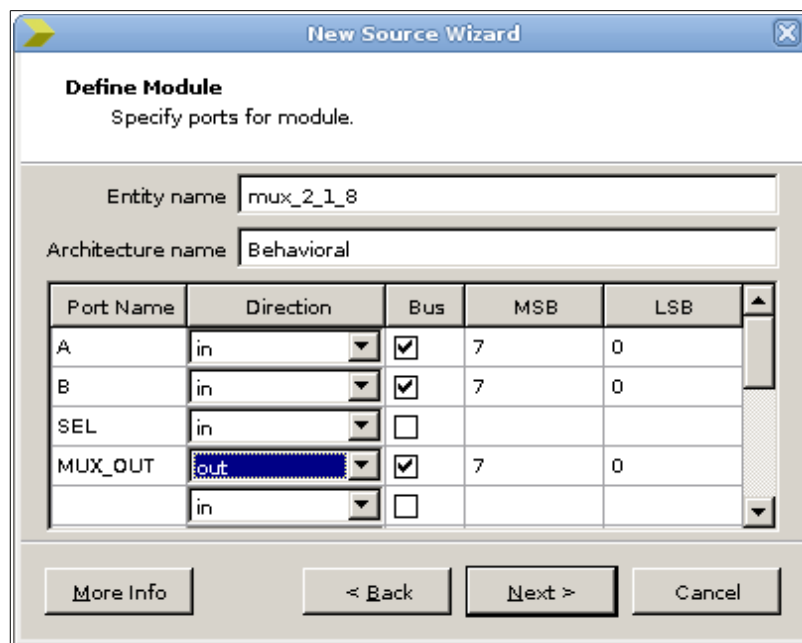

Figure 4
The mux will have two 8-bit inputs (data inputs A and B), one 1-bit input (select input SEL) and one 8-bit output (data output MUX_OUT). So the next New Source Wizard window must be completed as shown in Figure 4.
In **Figure 5** ports A, B and MUX_OUT are of type `STD_LOGIC_VECTOR`. The `STD_LOGIC_VECTOR` type represents an array of `STD_LOGIC` objects [3]. The `(7 downto 0)` expression that follows `STD_LOGIC_VECTOR` type indicates array's length (8 bits), the most significant bit (7) and the least significant bit (0) – see also **Figure 4**. If the expression following `STD_LOGIC_VECTOR` type was `(0 to 7)`, the most significant bit would be bit 0 and the least significant bit would be bit 7.